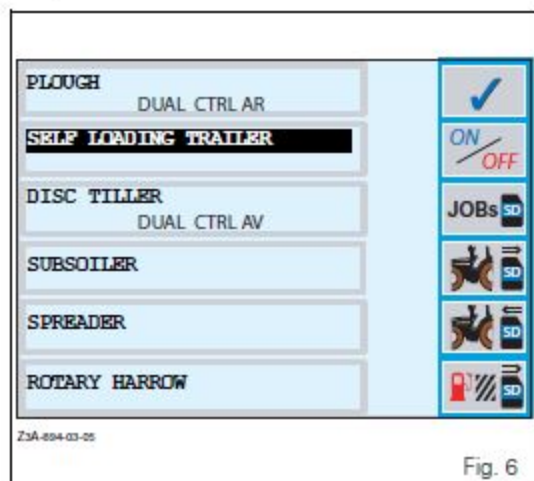

Fig. 6
- Select one of the six memories with the encoder (Fig. 6).